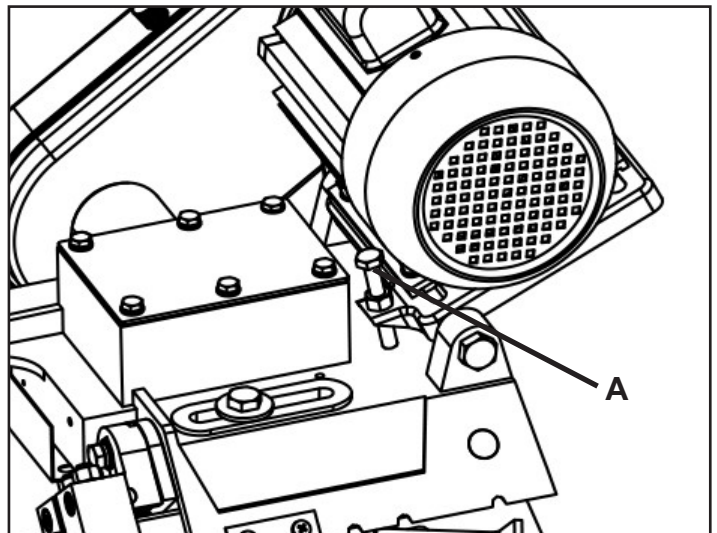
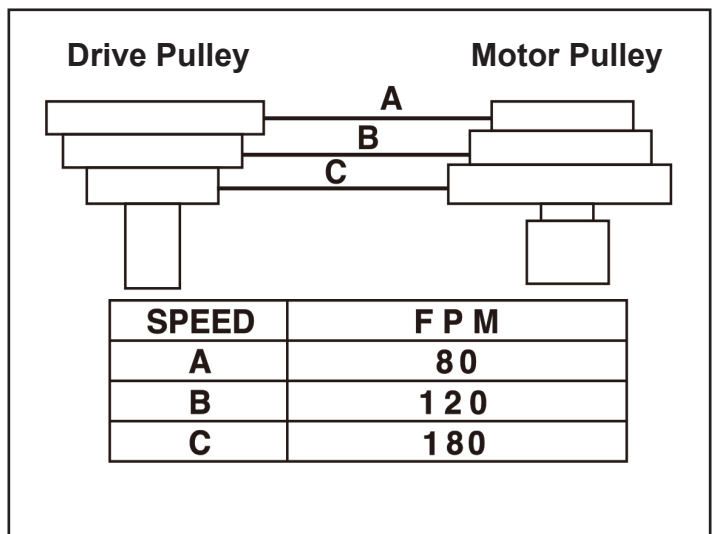

FIGURE 18
FIGURE 19
2. Loosen the motor lock bolt (A-Fig.18) to allow the motor to pivot. Raise the motor to relieve the belt tension and position the belt in the desired pulley step alignment per the chart shown in Figure 19.
3. Release the motor and let its own weight tension the belt. Tighten the motor lock bolt (A-Fig.18) against the frame of the band saw to retain belt tension.